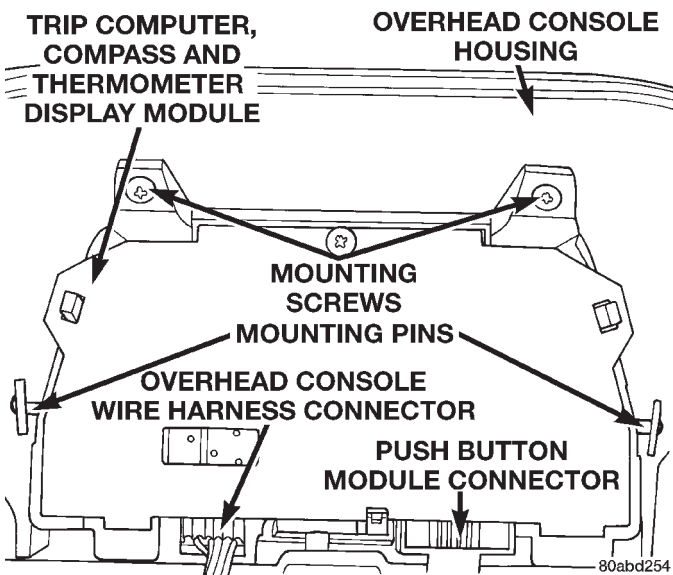

Fig. 4 Trip Computer, Compass, and Thermometer Display Module Remove/Install
(1) Remove the overhead console as described in this group.
(2) Remove the two screws that secure the forward end of the trip computer, compass, and thermometer display module to the overhead console housing (Fig. 4).